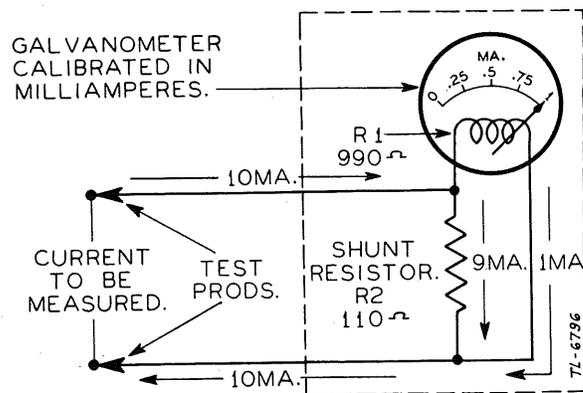

Figure 1. The galvanometer as a milliammeter, showing shunt.
(3) For example, suppose a meter having a 990-ohm coil reads full scale with a current flowing through it of 1 milliamperes and it is desired to extend the full scale reading to 10 milliamperes. The parallel or shunt resistor must be of such value that 9 milliamperes will flow through it, leaving 1 milliamperes to flow through the meter for full-scale deflection. Using Ohm's law, this resistance is figured to be 110 ohms or $\frac{1}{9}$ of 990 ohms. This example is shown in figure 1 where R1 is the meter resistance and R2 is the shunting resistor, or the low-resistance path in parallel with the meter. All parts of the meter circuit are shown inside the broken line. Since $E = IR$:
with the arrangement shown in figure 1, the scale, although calibrated from zero to 1 milliampere, may be used to measure any current up to 10 milliamperes. The meter reading is multiplied by 10 to obtain the total current in the circuit. To extend the range of the meter to read zero to 100 milliamperes the value of R2 must be changed to 10 ohms, or $\frac{1}{99}$ of the meter coil resistance. A current of 1 milliampere must still flow through the galvanometer for full-scale deflection, leaving 99 milliamperes to flow through R2. The meter reading is then multiplied by 100 for the actual current being measured.